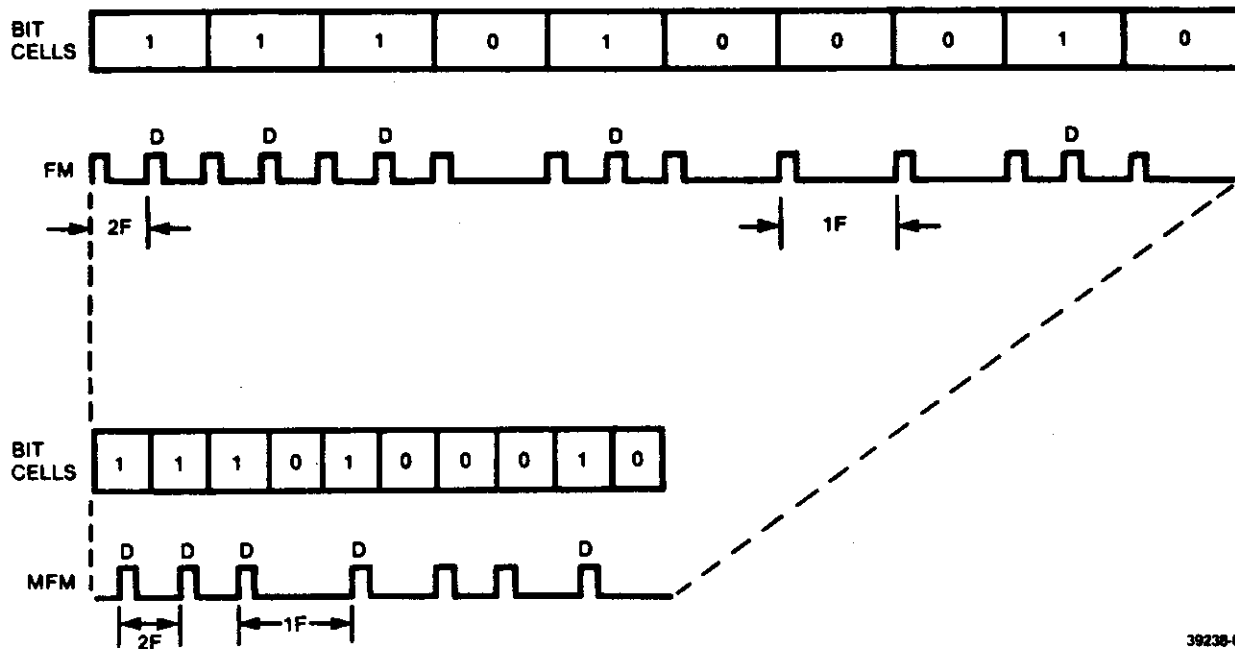

FIGURE 1-7. FM AND MFM CODE COMPARISONS
The encoding scheme of the recorded data can be either FM or MFM. FM encoding rules specify a clock bit at the start of every bit cell and a data bit at the center of the bit cell if this cell contains a one data bit. (see figure 1-7). MFM encoding rules allow clock bits to be omitted from some bit cells with the following prerequisites:
- a. The clock bit is omitted from the current bit cell if either the preceding bit cell or the current bit cell contains a one data bit. See figure 1-7.